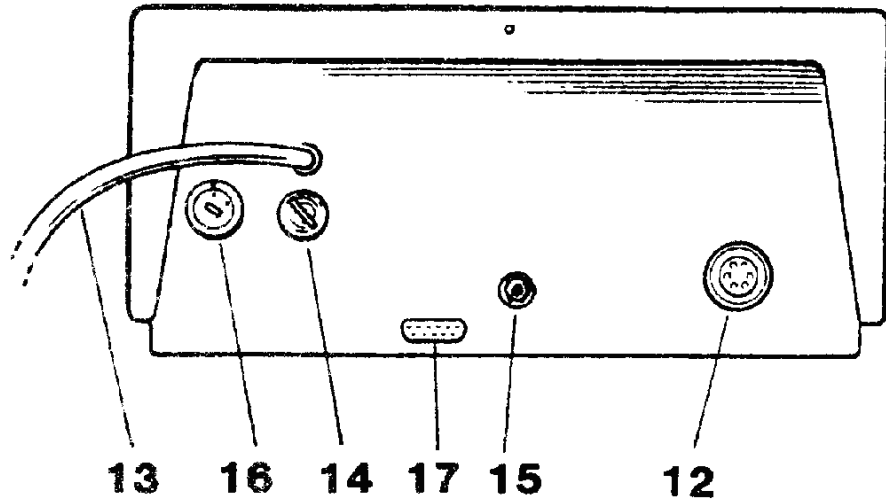

Figure 1-2. Monitor back panel.
(9) Chart recorder (9). The chart recorder records on standard 40mm.
(10) Battery charger indicator (10). The battery charger indicator is lit when battery power paks are being charged and the unit is plugged into an alternating current (ac) power source.
(11) Battery level display (11). The meter displays the charge capacity in the BATTERY mode of the MRL battery power pak when unit is turned on. When the indicator is in the green area, the power pak is adequately charged. When the indicator is in the red area, the power pak should be recharged or exchanged for one fully charged immediately.
(12) Patient connector (12). Refer to figure 1-2 for paragraphs (12) through (17). The patient connector accepts the three or five lead patient cable (6 pin AAMI Standard).
(13) Power cord (13). For monitor and defibrillator interconnected operation, insert the monitor power cord into receptacle on the defibrillator module. You then insert the defibrillator power cord into grounded ac power source.
(14) Fuse holder (14). The fuse holder holds the appropriate fuse for the line voltage selected.
(15) Electrocardiograph output (15). The ECG output provides 1 volt (v) output for accessory equipment.
(16) Voltage selector switch (16). Use the voltage selector switch to select proper voltage for 110v or 220v line power.
(17) Monitor rear jack (17). The monitor rear jack is for monitor and defibrillator interconnected operation.